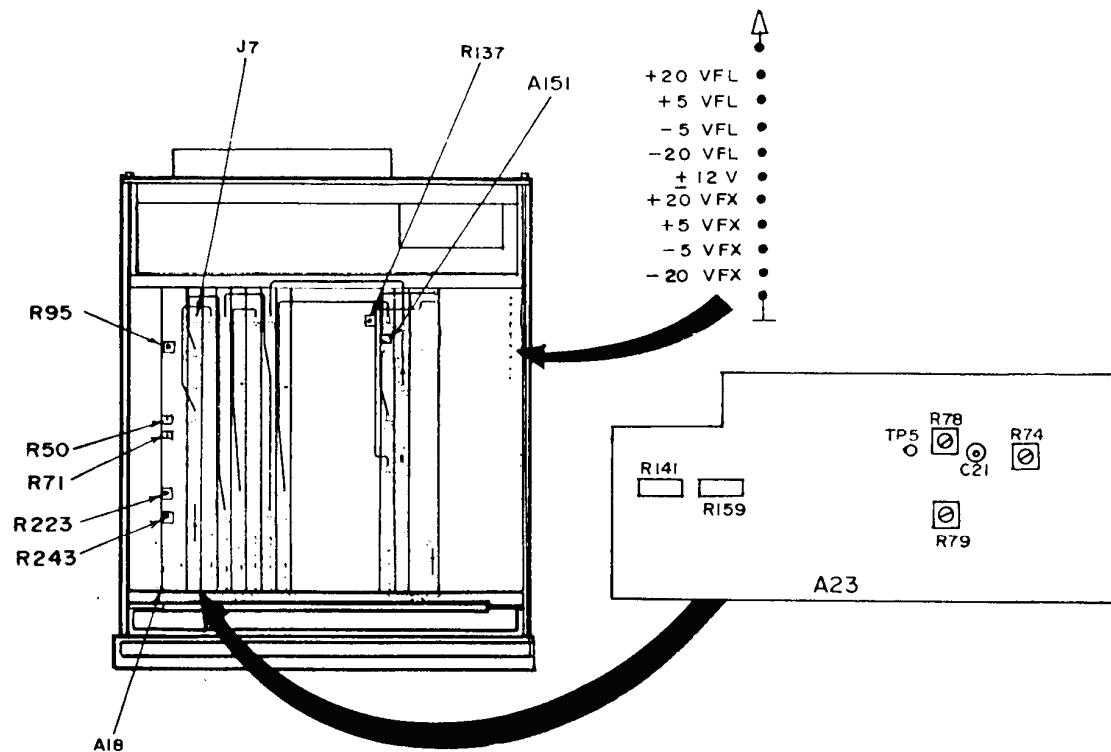

Figure 1. Test instrument - adjustment locations.
- (1) Press **ON/OFF** pushbutton to **OFF** position.
- (2) Remove A23 board (fig. 1) from TI and reconnect, using extender board.
- (3) Connect multimeter negative terminal to ground and positive terminal to TP5 (fig. 1).
- (4) Press **ON/OFF** pushbutton to **ON**.
- (5) Press pushbuttons and enter data as listed in (a) through (c) below:
- (6) Adjust R141 (fig. 1) for a -5 V \pm 20 mV indication on multimeter (R).
- (7) Press **PERIOD** pushbutton and enter 99.9 ns. Adjust R159 (fig. 1) for a -500 mV \pm 2 mV indication on multimeter.
- (8) Repeat (5), (6), and (7) above until voltages are within tolerance (R).
- (9) Disconnect cable A23 J7 (fig. 1) and connect frequency counter to J7 using cable #1.
- (10) Press **PERIOD** pushbutton and enter 999 ns. Adjust R141 (fig. 1) for a 999 ns \pm 3 ns indication on frequency counter (R).
- (11) Press **PERIOD** pushbutton and enter 100 ns. Adjust R79 (fig. 1) for a 99.5 ns \pm 0.3 ns indication on frequency counter (R).
- (12) Repeat (10) and (11) above until periods are within tolerance.
- (13) Press **PERIOD** pushbutton and enter 99.9 ns. Adjust C21 (fig. 1) for a 99.9 ns \pm 0.3 ns indication on frequency counter (R).
- (14) Press **PERIOD** pushbutton and enter 20 ns. Adjust R78 (fig. 1) for a 20 ns \pm 0.1 ns indication on frequency counter (R). Repeat (13) above.
- (15) Press **PERIOD** pushbutton and enter 20 ns. Record frequency counter indication.
- (16) Press **PERIOD** pushbutton and enter 35 ns. Record frequency counter indication.
- (17) Calculate relative error of values recorded in (15) and (16) above.
- (18) If error at 20 ns is higher, press **PERIOD** pushbutton and enter 20 ns. Adjust R78 for a 20 ns \pm 0.2 ns indication on frequency counter (R).
- (19) If error at 35 ns is higher, press **PERIOD** pushbutton and enter 35 ns. Adjust R74 (fig. 1) for a 35 ns \pm 0.3 ns indication on frequency counter (R).
- (20) Repeat (15) through (19) until period at 20 and 35 ns are within \pm 1.5 percent of setting.
- (21) Press **PERIOD** pushbutton and enter 99.9 ns. Adjust C21 for a 99.9 ns \pm 0.3 ns indication on frequency counter (R).
- (22) Press **ON/OFF** pushbutton to **OFF**.
- (23) Remove extender board and reconnect A23 board to TI.
- (24) Replace TI top cover. Press **ON/OFF** pushbutton to **ON** and allow TI to warm-up for 20 minutes. Repeat 8 a above. It may be necessary to repeat this adjustment procedure.